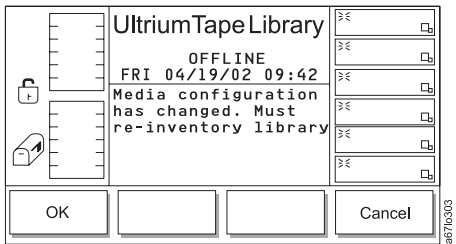

Figure 4-207. Reinventory screen
5. Press the button below the **OK** softkey. The Reinventory screen displays (see Figure 4-207).